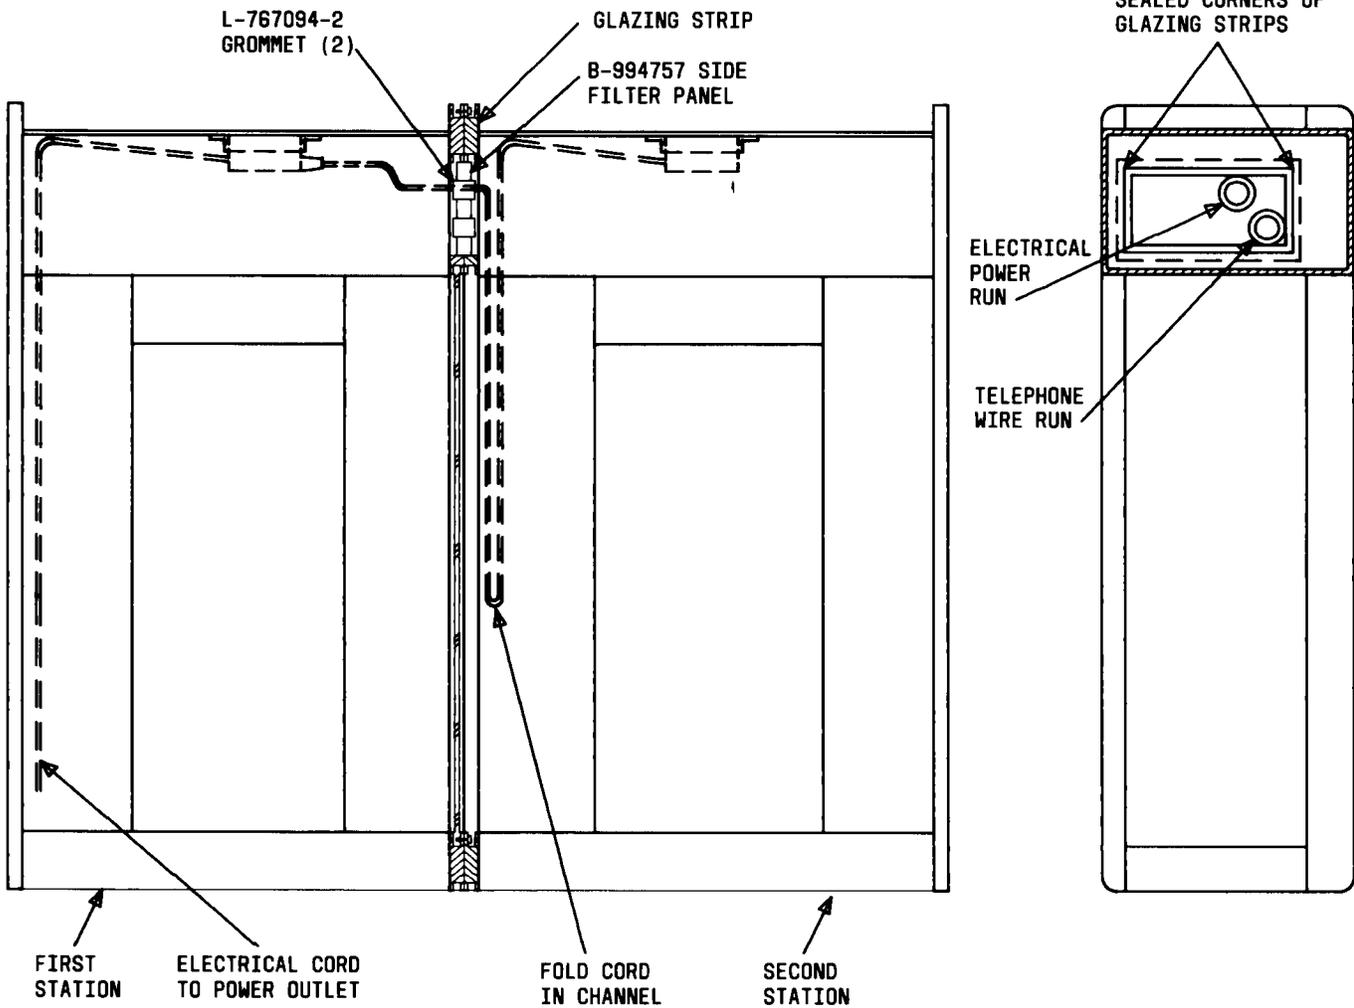

Fig. 37—Installation of Two List 35A Housing Assemblies Side-by-Side Using List 74 Mounting Kit
3.35 **List 35A Housing Assemblies Side-By-Side Using List 74 Mounting Kit (Fig. 37).**
Caution: *Do not break sealed upper corners (Fig. 37). Assemble the glazing strips on the side filler panels furnished in the List 74 mounting kit.*